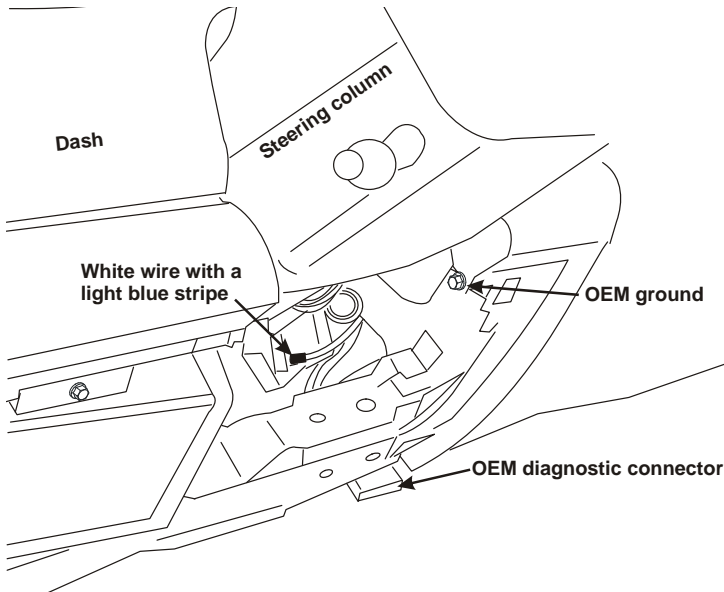

Figure 2
- Connect the red wire to the key-switched 12V OEM white with blue stripe wire under the dash (Ford CCT #294) located near the OEM diagnostic connector (Figure 2).
- Attach the green wire with the ring connector to the OEM ground above the diagnostic connector (Figure 2).